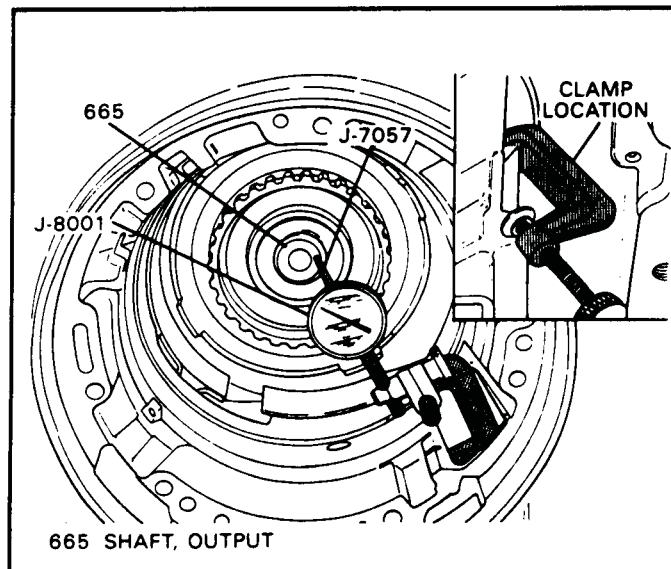

Figure 82
2. Install dial indicator with clamp on case as it is shown in Figure 82.
3. Position dial indicator extension against the end of the output shaft, as shown in Figure 82.